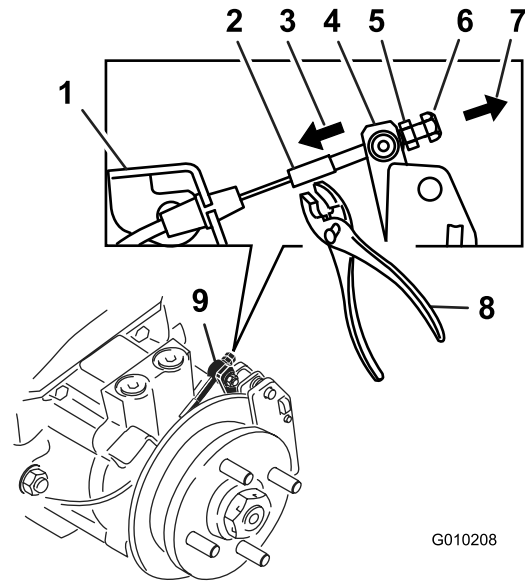

Figure 72
9. Using hands and fingers only, push the caliper lever arm to engage the brake pads on the rotor until the lever stops (Figure 72).
10. While holding the lever at the stopped position, use the other hand or fingers to pull the cable threaded end tight through the swivel. Spin the standard nut against the swivel (Figure 72).